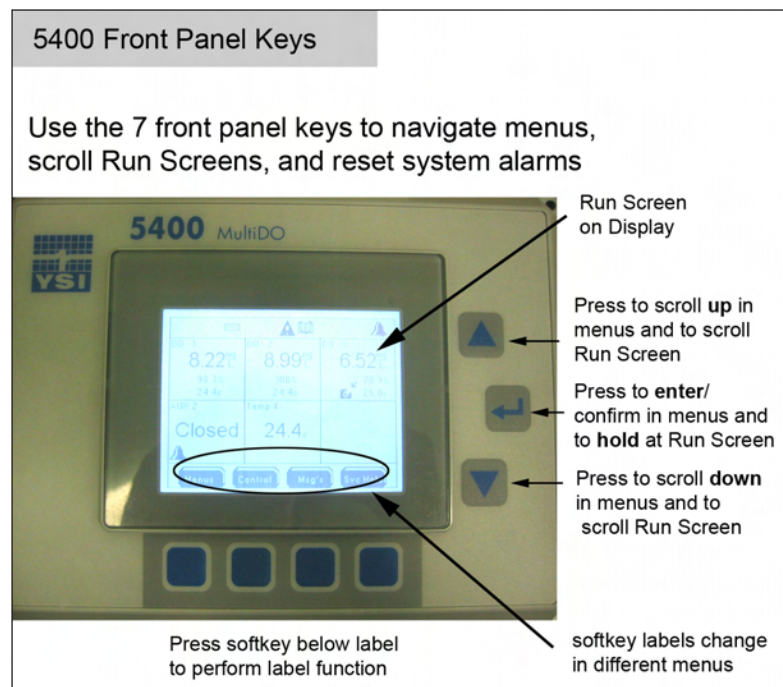

Figure 4.1
The front panel - figure 4.1, is the front component of the 5400 enclosure. The front panel contains the 5400 display and seven keys. Use the keys to navigate menus and instrument system information.
There are seven (7) 5400 front panel keys - figure 4.1. Use ▲ and ▼ keys to scroll and highlight menu lists and to scroll through multiple Run Screens. Use ← key to